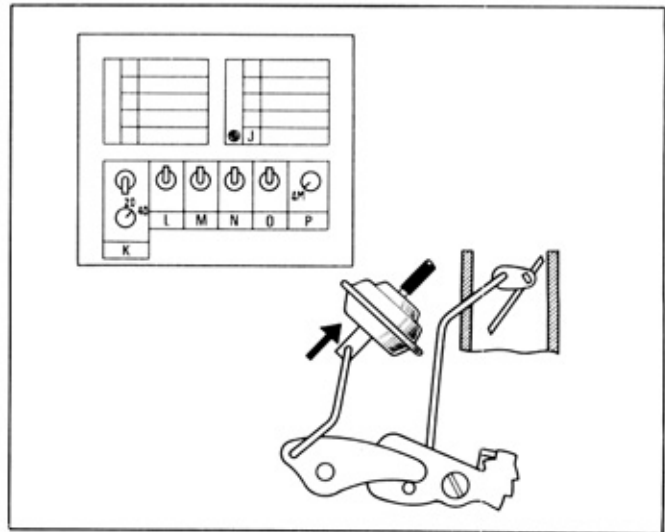

Fig. 18-18 Fast Idle Breaker Inspection (4M)
- e. Turn the dial "K", Between 20 and 30 mph, light "J" should turn on and at same time, the diaphragm link should be drawn in. (Fig. 18-18).